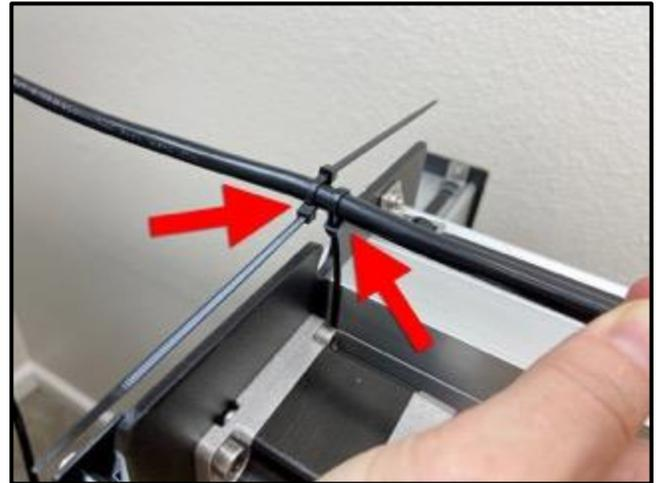

Figure 10-8
6. Collect three (3) more cable ties.
7. Insert one cable tie into a second. Loop the end of the second cable tie around the router cable and through the head of the first. Don't tighten the loop yet. This double-cable-tie loop will secure the cable on the outside of the Y2-carriage plate. See **Figure 10-8**.
8. Loop a third cable tie around the router cable and close the ends but do not tighten yet. This cable tie will secure the cable from the inside of the Y2-carriage plate. See **Figure 10-8**.
9. Once the router cable is positioned in the cutout, tighten the all three (3) cable ties to secure the router in place. See **Figure 10-8**.